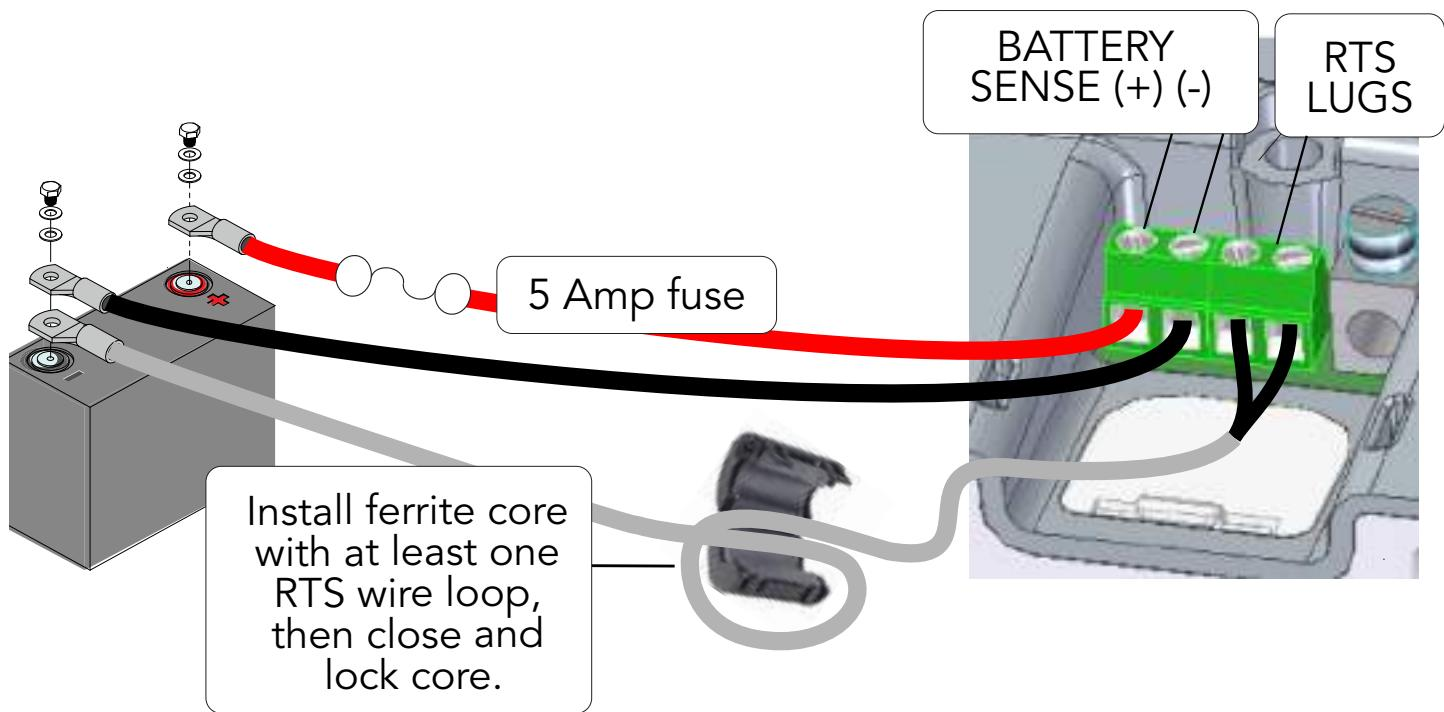

Figure 3-3. Accessory installation detail
Three (3) ferrite chokes are included for individual installations around an RTS cable, PV (+) and (-) cables (in one choke) and an Ethernet cable. See Figures 3-3 and 3-4 for installation details conforming to FCC Class B EMI requirements. Each core must be installed as close to the GenStar MPPT as possible.
For Accessory Wiring, refer to schematic in Figure 3.3 below when following 3.4.1 and 3.4.2 on next pages.
Refer to Figure 3-3 above.
Due to connection and cable resistance, voltage drops are unavoidable in all power cables that carry current (See Figure 3.3 above). If Battery Sense wires are not used, the controller must use the voltage reading at the battery power terminals for regulation. This voltage may differ from the actual battery bank voltage due to voltage drop.
The two sense wires can range in size from 1.0 to 0.25 mm2 (16 to 24 AWG), and should be cut to length as required to connect the battery to the voltage sense terminals. The two-position terminal - to the left of the Load (+) terminal (beyond the RTS terminals) (see Figures 3-3 and 3-4) is used for the battery sense connections. A twisted pair cable is recommended but not required. Use UL rated 300 Volt conductors. The voltage sense wires may be pulled through conduit with the power conductors.
**Refer to Figure 3-3 above.**
An RTS can be added at any time during system installation (refer to Figure 3-3).
Connect the RTS to the two-position terminal located immediately to the left of the Load (+) terminal (see Figures 3-3 and 3-4).